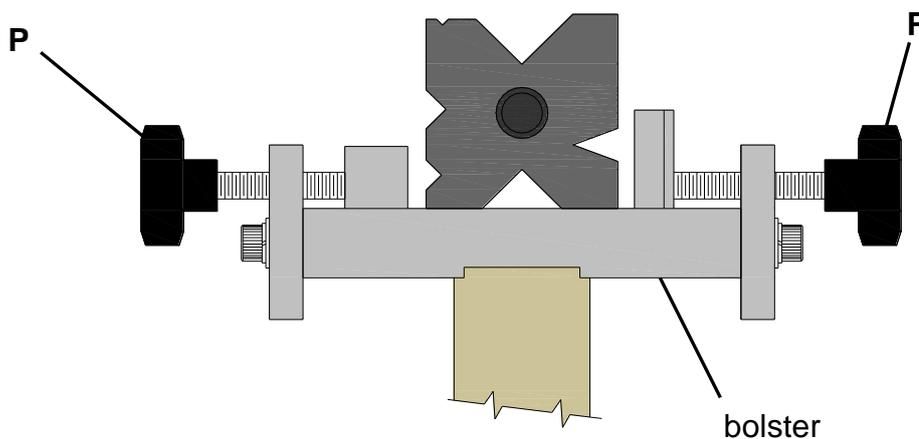

figure 23
1. Loosen the four hold down clamps (**P**) which secure the die to the bolster. (fig. 23)